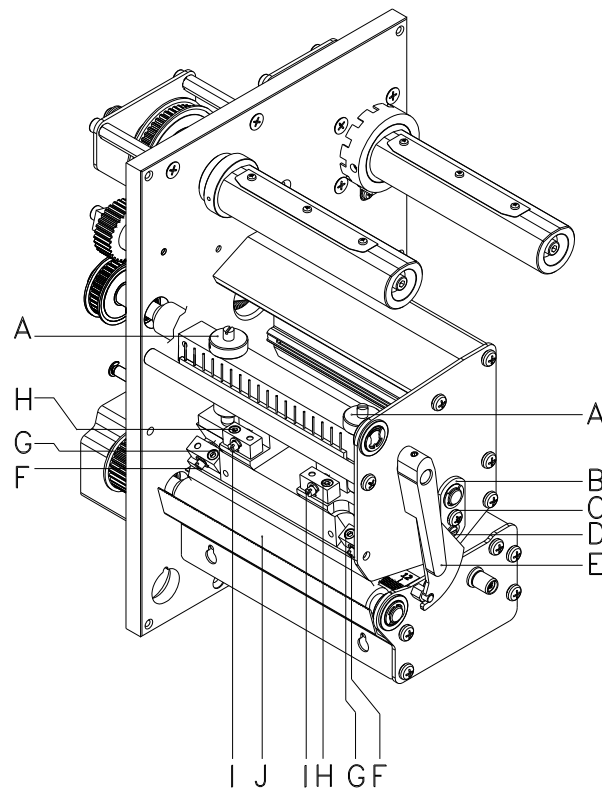

Figure 15
1. Loosen the screws (G oder H, Figure 15) with a hexagon key by approx. $\frac{1}{4}$ rotations.
2. Adjust the parallelism with the adjusting screws (E or I, Figure 15).
4. Tighten again screws (G or H, Figure 15).
1. Loosen screw (C, Figure 15) with a screwdriver by approx. $\frac{1}{4}$ rotations.
2. In order to achieve a pressure balance, turn the excentric bolt (D, Figure 15) as long as the printing result comes up to your full expectation.
3. Tighten again screw (C, Figure 15).
1. Turn pressure screws (A, Figure 15) to change the pressure of printhead.
2. Turning the pressure screws (A, Figure 15) as far as they will go in clockwise direction results in a pressure increase of 10N in contrast to the factory setting.
3. Turning the pressure screws (A, Figure 15) exactly one rotation from the right stop position counter clockwise results in the factory settings.